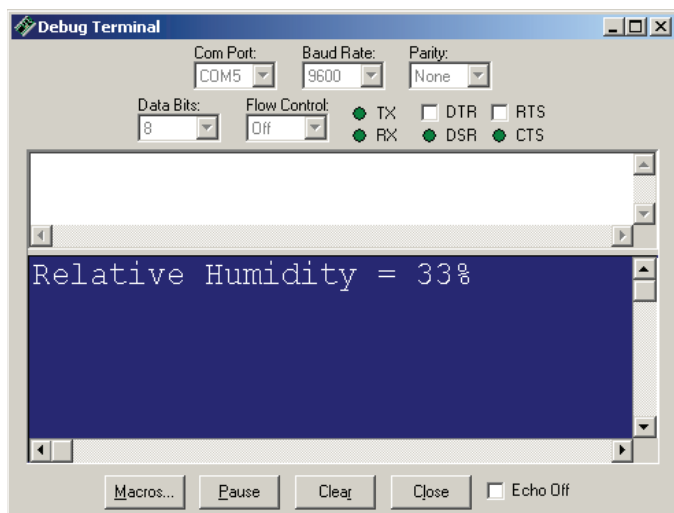

Figure 3: Typical Debug Output
- ✓ You should obtain results similar to those shown in Figure 3.